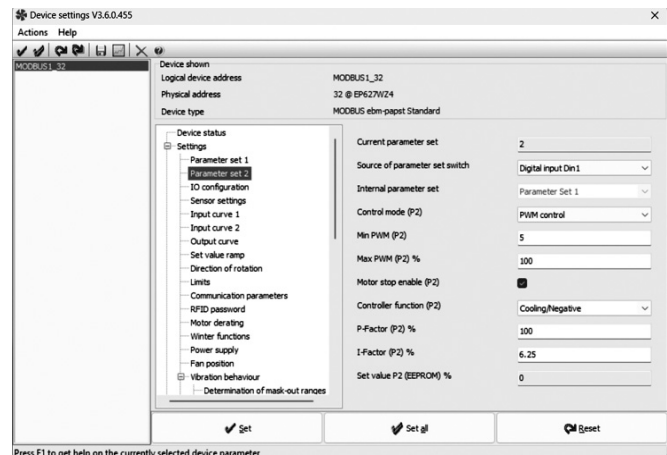

Fig. 17 — EC-Control Parameter Set 2
- b. Set the following parameters to match Fig. 17. “**Current Parameter Set**” will not be changeable, this is only to indicate what parameter set the fan is currently in.